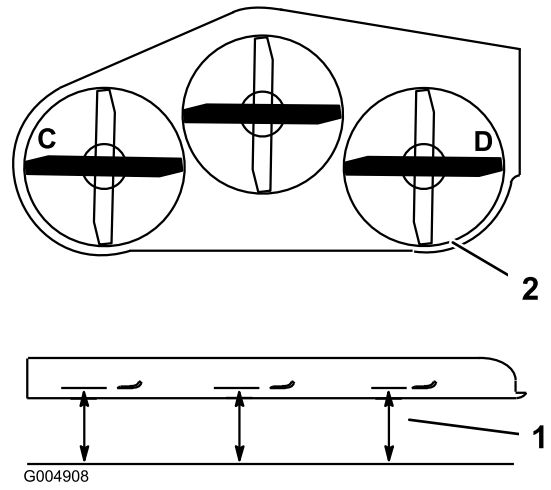
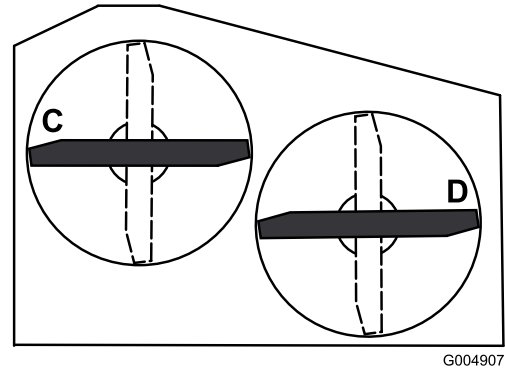

Figure 76
Figure 77
2. Position the blades side-to-side. Measure at C and D locations from a level surface to the cutting edge of blade tips (Figure 76). For 36 inch mower decks use Figure 77.